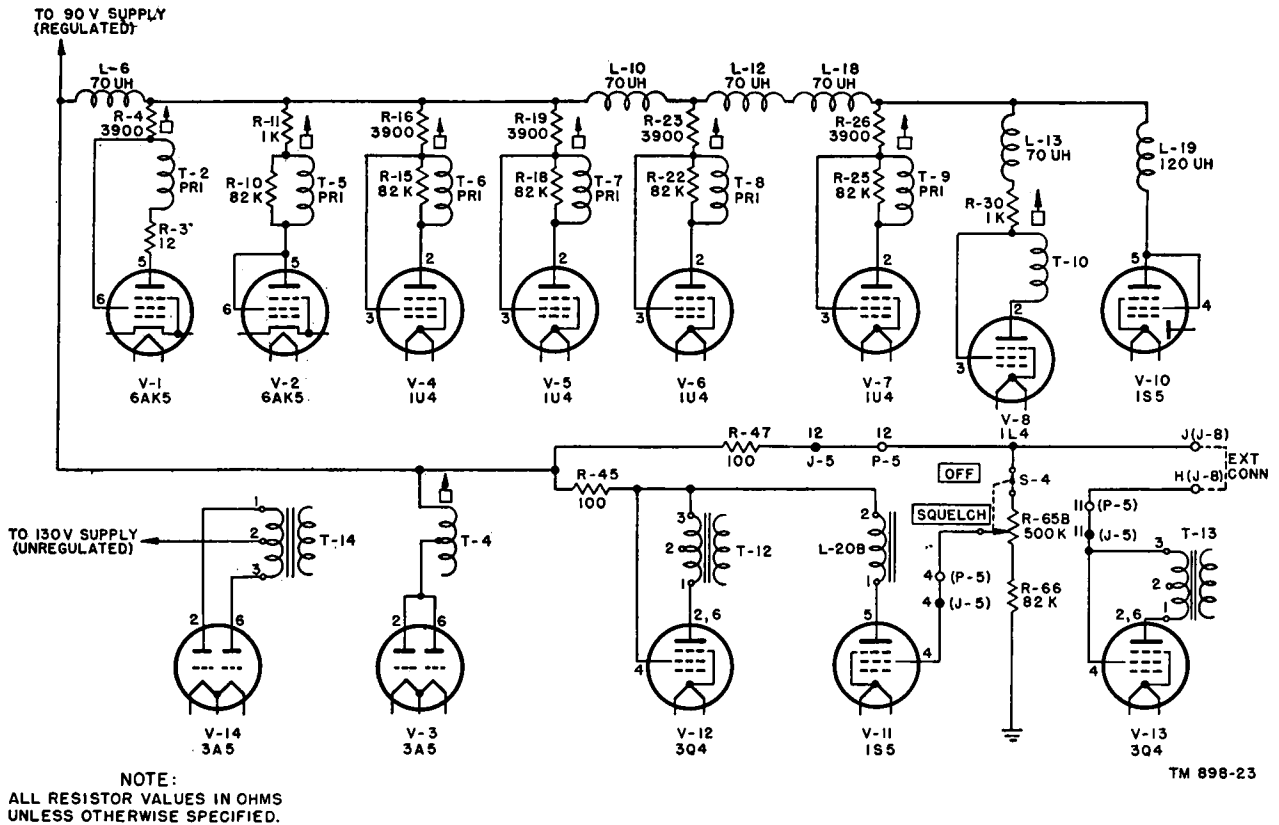
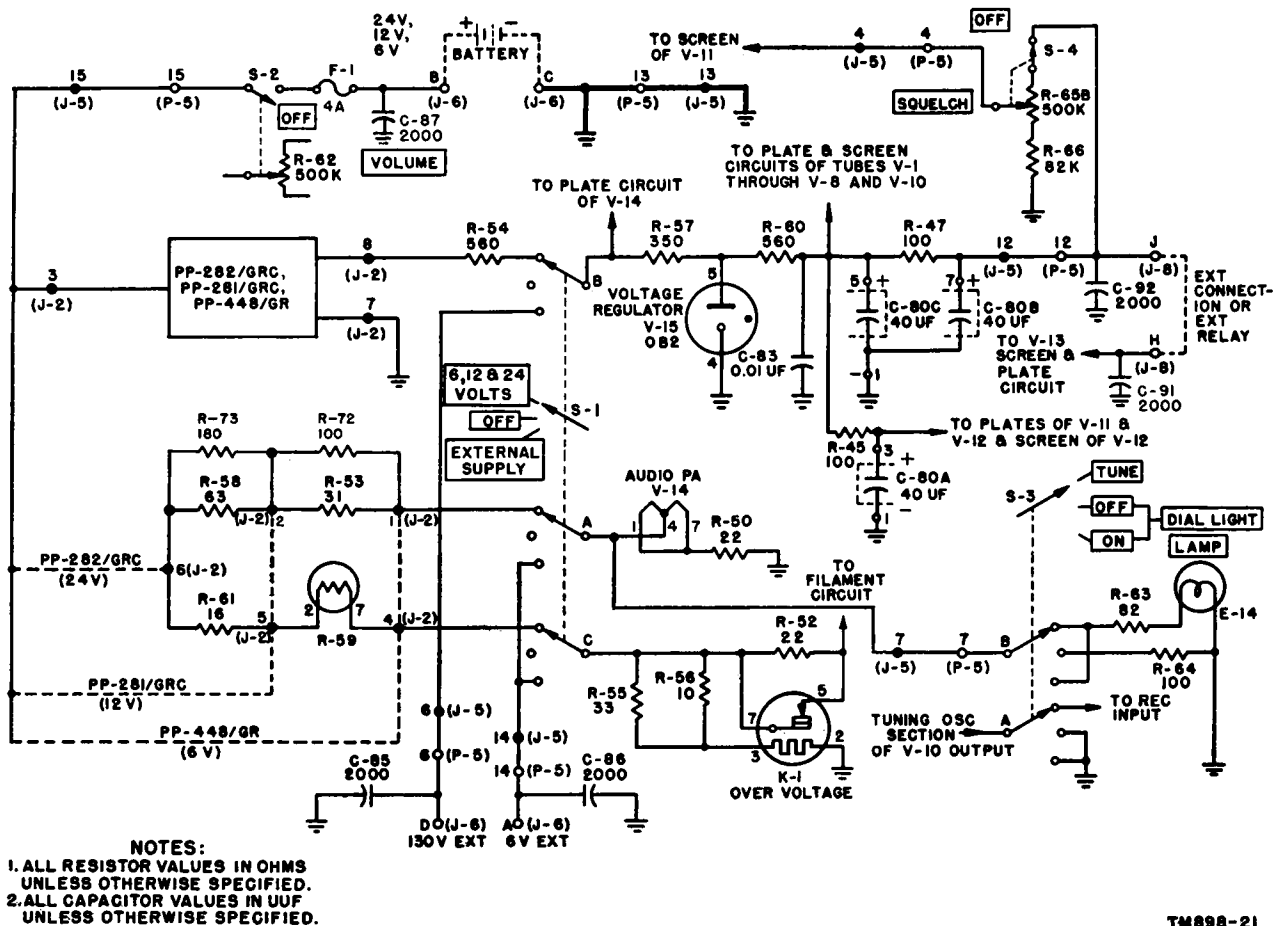

Figure 21. Plate and screen circuits, functional diagram.
Figure 23. Power supply circuits, functional diagram.
b. Plate voltage for V-14 is applied to the center tap (terminal 2) of T-14 from the 130-volt supply point of the receiver power supply circuit. Plate supply details are shown in figures 21 and 23. Filament voltage is reduced to the required value by voltage dropping resistor R-50.
31. Plate and Screen Supply Circuits (figs. 21 and 23)
a. The plate and screen supply circuit extends from pin 8 of J-2, the output terminal of the vibrator power supply unit (fig. 23), and is routed through voltage-dropping resistor R-54 and section B of switch S-1 over several paths to the plates and screens of tubes in the receiver. One path extends directly to the plates of audio output tube V-14. Another path extends through voltage-dropping resistor R-57 and ripple filter circuits R-60 and C-80C to several branch paths as shown in figure 21. Voltage regulator tube V-15 (par. 33), connected between the junction of R-57 and R-60 to ground, serves to insure that
b. One branch path (fig. 21) includes all the r-f, i-f, and discriminator circuit tubes (V-1 through V-8 and V-10). This branch includes r-f filter networks consisting of choke coils L-6, L-10, L-12, L-13, L-18, and L-19 and the associated bypass capacitors. The purpose of this arrangement is to prevent interaction between the h-f stages through the power supply circuits. Another branch path extends through filter resistor R-45 to the plate and screen of fixed level audio amplifier V-12 and to the plate of squelch oscillator tube V-11. Still another branch extends through filter resistor R-47 and through SQUELCH potentiometer R-65 to the screen of V-11 and through terminals J and H (when strapped) of panel connector J-8 to the plate and screen of first audio amplifier stage V-13. The screen supply circuit for squelch tube V-11 includes SQUELCH potentiometer R-65 and the SQUELCH ON-OFF switch S-4 and voltage-dropping resistor R-66. When the SQUELCH control is in the extreme counterclockwise position, switch S-4, which is mechanically ganged with the shaft of the control potentiometer, is opened and no screen voltage is applied to V-11. If the SQUELCH potentiometer is rotated in a clockwise direction, increasingly larger screen voltage is applied to that tube. A point to be noted is that the plate and screen voltages for V-13 are obtained, not by direct connection to the plate supply circuit, but by external connection between terminals H and J of J-8. The manner in which this external connection is made depends upon the particular system arrangement. In some arrangements, this connection is simply a strap between the two terminals. In arrangements involving the retransmission of signals from the audio output circuits of the receiver to the audio input circuits of a transmitter, a relay coil is connected between these two terminals so that the entrance of a signal into the receiver causes the relay to be energized to complete the retransmission circuits. It should be noted that since under normal operation and with no signal entering the receiver the squelch circuit keeps the audio stages in the cut-off condition, no plate current flows in V-13 and, therefore, the relay is normally unenergized. The moment a signal enters the receiver, the squelch circuit is
The filament circuits of all tubes except V-14 extend through the overvoltage relay circuit to terminal 5 of overvoltage relay K-1 (fig. 23). The filament circuit of V-14 extends from terminal 1 of J-2 or pin A of J-6, (when external supply is used) through section A of switch S-1, directly to the filaments of V-14 and through voltage-dropping resistor R-22 to ground. It does not include the overvoltage relay.
(fig. 23)
- (1) The voltage is applied through R-54 and over section B of switch S-1 (when in the 6, 12, and 24 VOLTS position) to the plates of V-14.
- (2) The h-v supply circuit continues through R-57 and R-60 to the plates and screens of tubes V-1 through V-8 and V-10 and through R-45 to the plate and screen of V-12 and to the plate of V-11.
- (3) The screen voltage for squelch tube V-11 is taken through the arm of SQUELCH potentiometer R-65, which in series with the contacts of SQUELCH switch S-4 (when closed) and voltage-dropping resistor R-66, is shunted across the h-v supply. Switch S-4 (part of the mechanical assembly of the SQUELCH control R-65 and S-4) is closed when the knob of the SQUELCH control is rotated away from its extreme counterclockwise position. When the control is in the extreme counterclockwise position, the contacts of S-4 are open, and no screen voltage is applied to V-11. The amount of voltage applied to V-11 is adjustable by varying potentiometer R-65.
- (4) The h-v supply continues through voltage-dropping resistor R-47, and pins 12 of chassis connectors J-5 and P-5 to terminal J of REC CONTROL connector J-8. The 90-volt potential appearing at this terminal is used to supply the plate and screen of the first audio amplifier, V-13, when a connection is established by external means between terminals J and H of J-8. As shown in figure 21, there is no internal connection between the plate and screen of V-13 and the h-v supply circuit. Instead, these circuits are connected to terminal H of J-8. When a connection is placed between terminals H and J of J-8 the 90-volt supply is brought to the electrodes of V-13 (par. 25).
- (5) Voltage regulator tube V-15, a tube type OB2, is connected from the junction of R-57 and R-60 to chassis, across the h-v supply. This tube limits the maximum output voltage of the circuit. Resistors R-57 and R-60, R-47, and R-54 are voltage-dropping and filter resistors. Sections A, B, and C of a triple section, plug-in electrolytic capacitor C-80 serve as
c. FILAMENT SUPPLY CIRCUITS. For 24-volt operation, socket connector X-1 of Power Supply PP-282/GRC provides a strap connection between terminals 3 and 6 of J-2 in the power supply compartment of the receiver. (See dotted lines in lower left-hand corner of figure 23.) This connection arranges a group of voltage-dropping resistors (R-53, R-56, R-58, R-61 and R-72 and thermal resistor R-59) to drop the 24 volts from the storage battery to the 6 volts required by the series-parallel arrangement of the receiver filaments and dial lamp E-14.
(1) The strap connection between terminals 3 and 6 of J-2 connects the battery cir-
d. **DIAL LAMP SUPPLY CIRCUIT.** Power for energizing the dial lamp is obtained from the filament supply circuit, as shown in figure 23. The filament supply circuit extends from pin 1 of J-2 through contacts of S-1 (par. 32), through terminals 7 of J-5 and P-5 to section B of switch S-3. When this switch is in either the TUNE or the DIAL LIGHT ON positions, dial lamp E-14, in series with voltage-dropping-resistor R-63, is effectively shunted across the filament supply circuit. When S-3 is in the DIAL LIGHT OFF position, the series combination of R-63 and E-14 is disconnected and an equivalent load resistor R-64 is placed across the filament supply. Other contacts of switch S-3 in the TUNE position turn on the tuning oscillator (par. 29).
36. Operation With External 6.3-Volt and 130-Volt Supplies (fig. 23)
- (1) Tool Equipment TE-113.
- (2) Allen wrenches (supplied).
- (3) Tube puller (supplied).
b. If the required readings are not obtained, refer to the schematic diagram (figs. 35 through 37) and to the power supply circuit functional diagram (fig. 23) to determine which part or parts may be responsible for the trouble. Incorrect readings may be due to shorted or leaky bypass capacitors, defective switch contacts or connector pins, burned resistors, or a wire or lug on one of the parts shorted to the chassis. Check each capacitor in the affected circuit section for leakage or a short, and replace it if necessary. Check the wires, the lugs on components, and the contacts on switches. Repair as necessary. Do not apply power until the trouble has been cleared and all the readings in the table have been obtained.